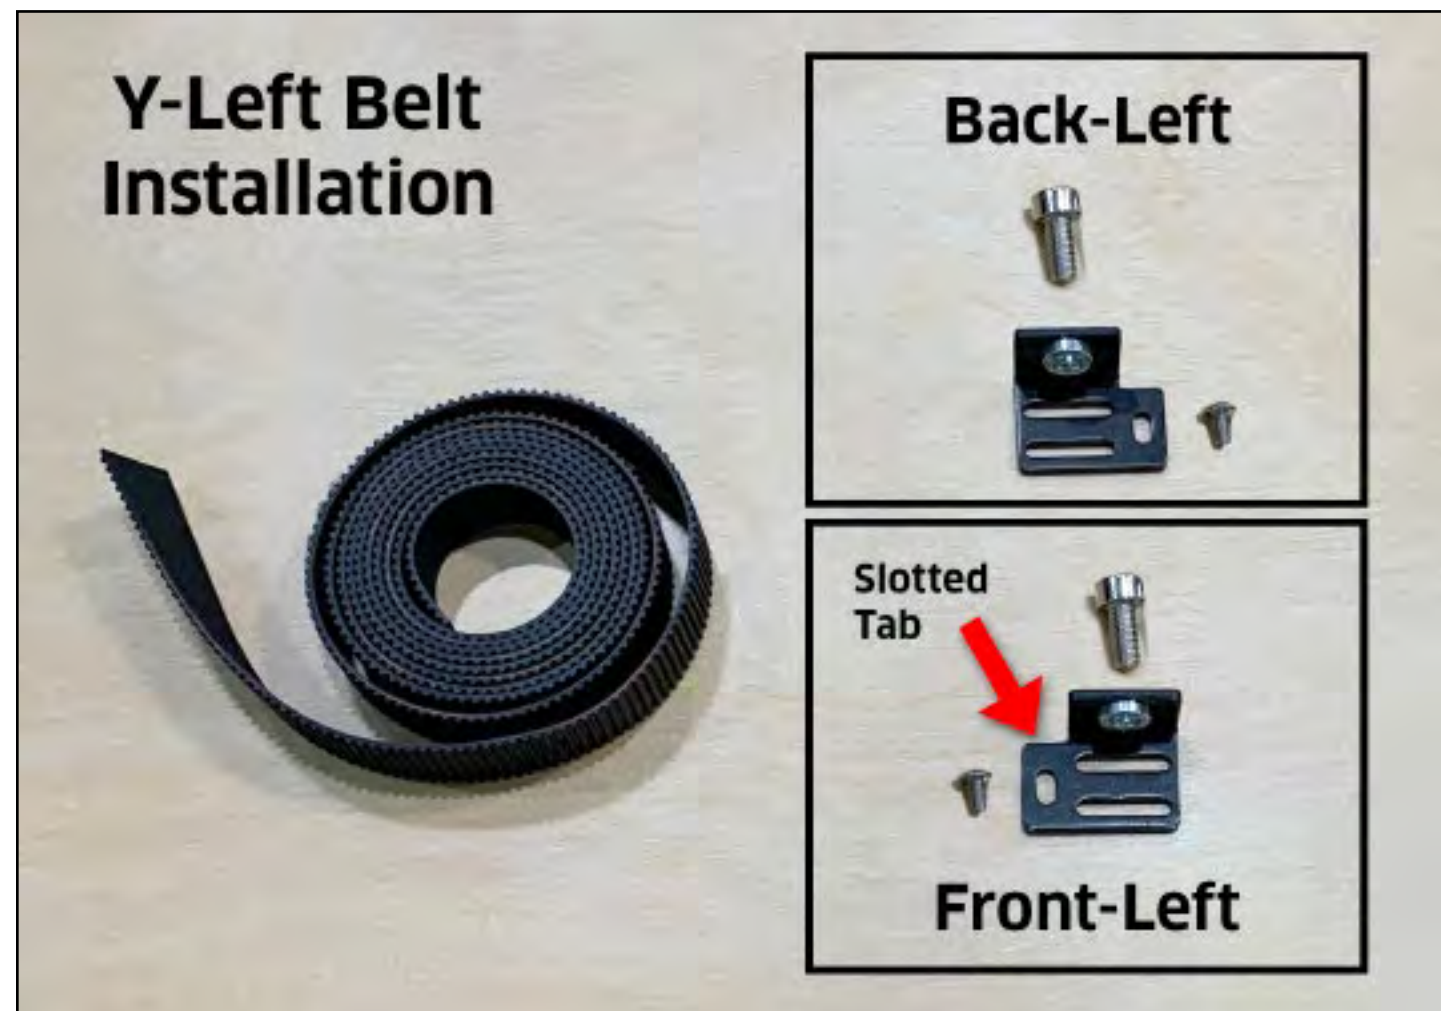

Figure 5-14
Each Y-Axis belt kit includes a pair of belt clips: one which will sit at the front endplate and one which will sit at the back endplate. See **Fig. 5-14**. Each belt clip has a small slotted tab on one side. When positioned correctly, the slotted tab will face to the **INSIDE** of the machine. The M3 screw in the belt kit screws through the small slotted tab and into the top of the rail, preventing the belt clip from twisting when the M5 screw, which secures the belt clip to the endplate, is fully tightened.
1. Insert one end of a belt into the front-left belt clip (the slotted tab will face to the **INSIDE** of the machine). See **Fig. 5-14**.